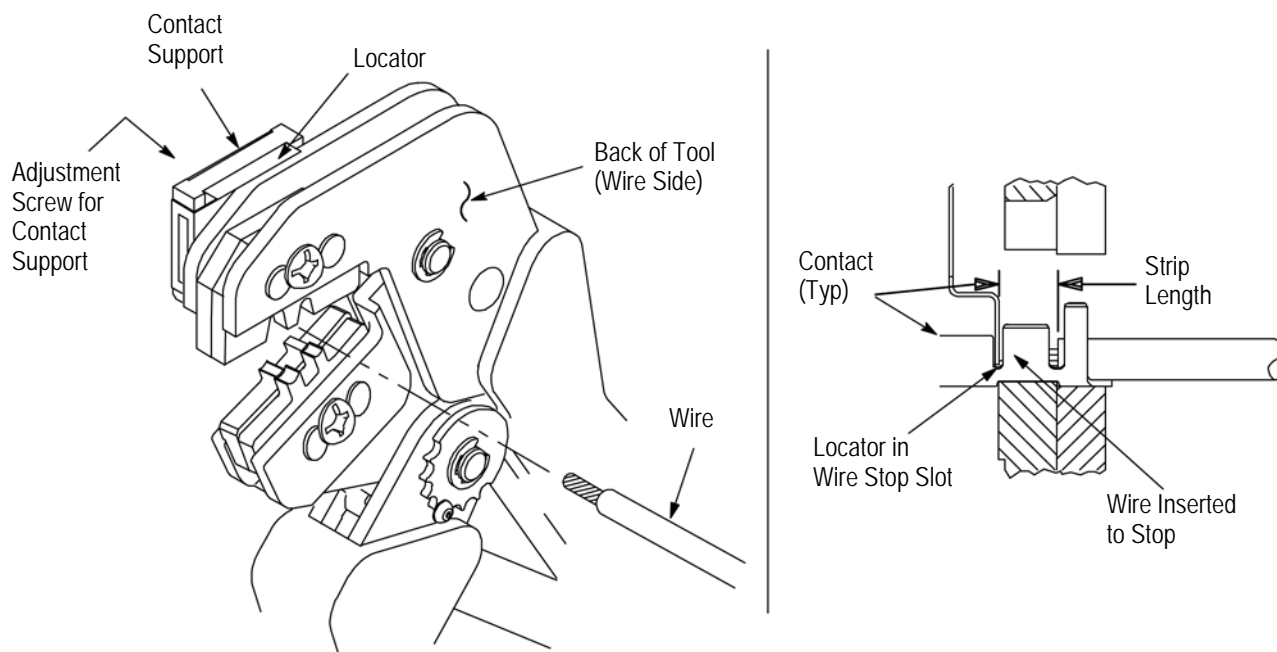

Figure 3
### 4. CONTACT SUPPORT ADJUSTMENT (Figure 3)
Refer to the table in Figure 1 and select wire of the specified size and insulation diameter. Strip the wire to the length indicated in Figure 1, taking care not to nick or cut wire strands. Select an applicable contact and identify the appropriate crimp section according to the wire size markings on the tool. Refer to Figure 3 and proceed as follows:
3. Position the contact so that the mating end of the contact is on the locator side of the tool, and so that the open "U" of the wire and insulation barrels face the top of the tool. Place the contact up into the nest so that the movable locator drops into the slot in the contact. Refer to Figure 3. Butt the front end of the wire barrel against the movable locator.
5. Insert stripped wire into contact insulation and wire barrels until it is butted against the wire stop, as shown in Figure 3.
**NOTE** *The crimped contact may stick in the crimping area, but the contact can be easily removed by pushing downward on the top of the locator (see Figure 3).*